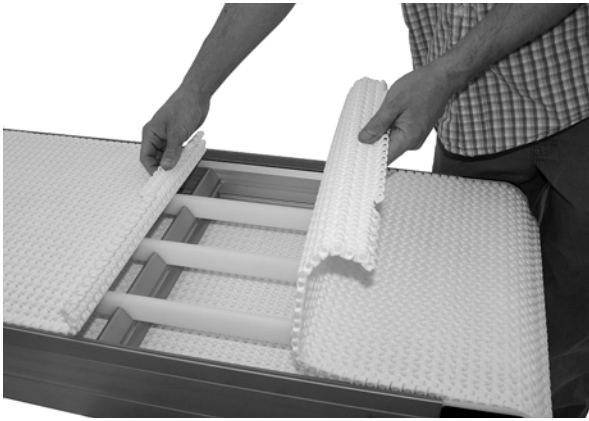

Figure 19
7. Bring the ends of the belt together (**Figure 19**).